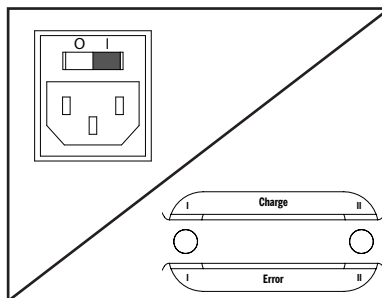

Figure 1
2. Make sure the charger is not plugged in and the power switch is in the OFF (O) position (Figure 1).
5. Move the power switch to the ON (I) position (Figure 1).
8. When charging is complete, move the power switch to the OFF (O) position (Figure 1), unplug the charger from the grounded AC outlet, then disconnect the connector leads from the batteries.